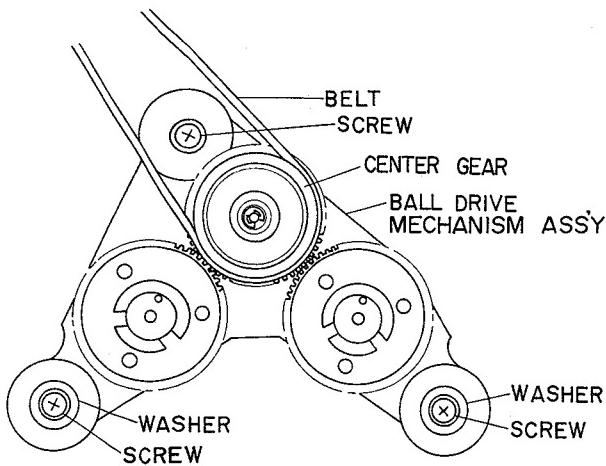

Fig. 5.4 Ball Drive Mechanism Ass'y Replacement
- (3) Referring to Fig. 5.4, remove the belt driven by the reel motor from the groove of the center gear. And remove three sets of screws and washers which fix the ball drive assembly to chassis. Detouch the brake assembly that holds the drum of ball drive assembly, and then remove the ball drive assembly.
- (4) Replace with a new ball drive assembly.
- (5) Mount the belt driven by the reel motor on the groove of center gear. Check to insure that the belt is clean and placed in a correct position.
- (6) Use care to prevent the shut-off belt from interfering with cassette holder assembly. Be sure that the belt is clean, and is placed in a correct position. Make sure not to stick grease on the counter belt. In case grease is stuck on the counter belt, clean it off with an alcohol-dipped cloth.
- (7) Without loading a cassette tape, check to insure that the reel hub on supply side and that on take-up side are stopped, respectively in F.F. mode and rewind mode. (In case either one or both of them is not stationary, replacement of ball drive assembly will be necessary.)
- (8) Loading the torque gauge in the cassette well assembly, check that F.F. and rewind torque are in a range of 50 to 55 g-cm. After mounting the flywheel assembly, capstan belt and flywheel holder, check to see that take-up torque is in a range of 40 ± 5 g-cm. In case these values are not achieved, adjustment should be made following the "5.1.2. Adjustement."